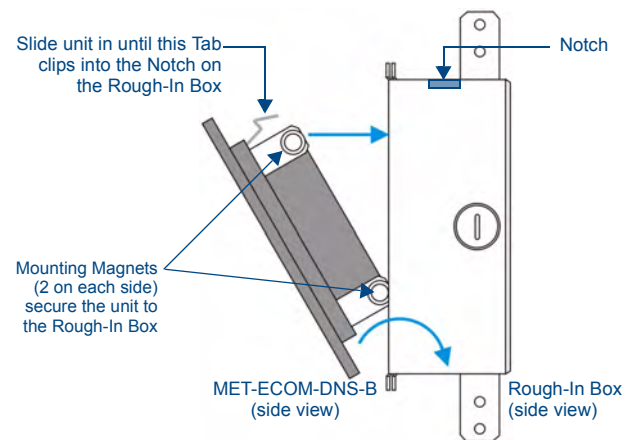

FIG. 6 Installing the MET-ECOM-DNS-B in to the Rough-In Box
- Insert the Metreau unit into the Rough-In Box at an angle, sliding the bottom in first (FIG. 6).